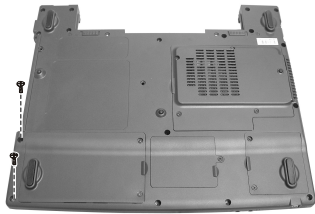

Figure 2-10 Remove the HDD compartment cover
2. Remove two screws fastening the HDD compartment cover. (Figure 2-10)